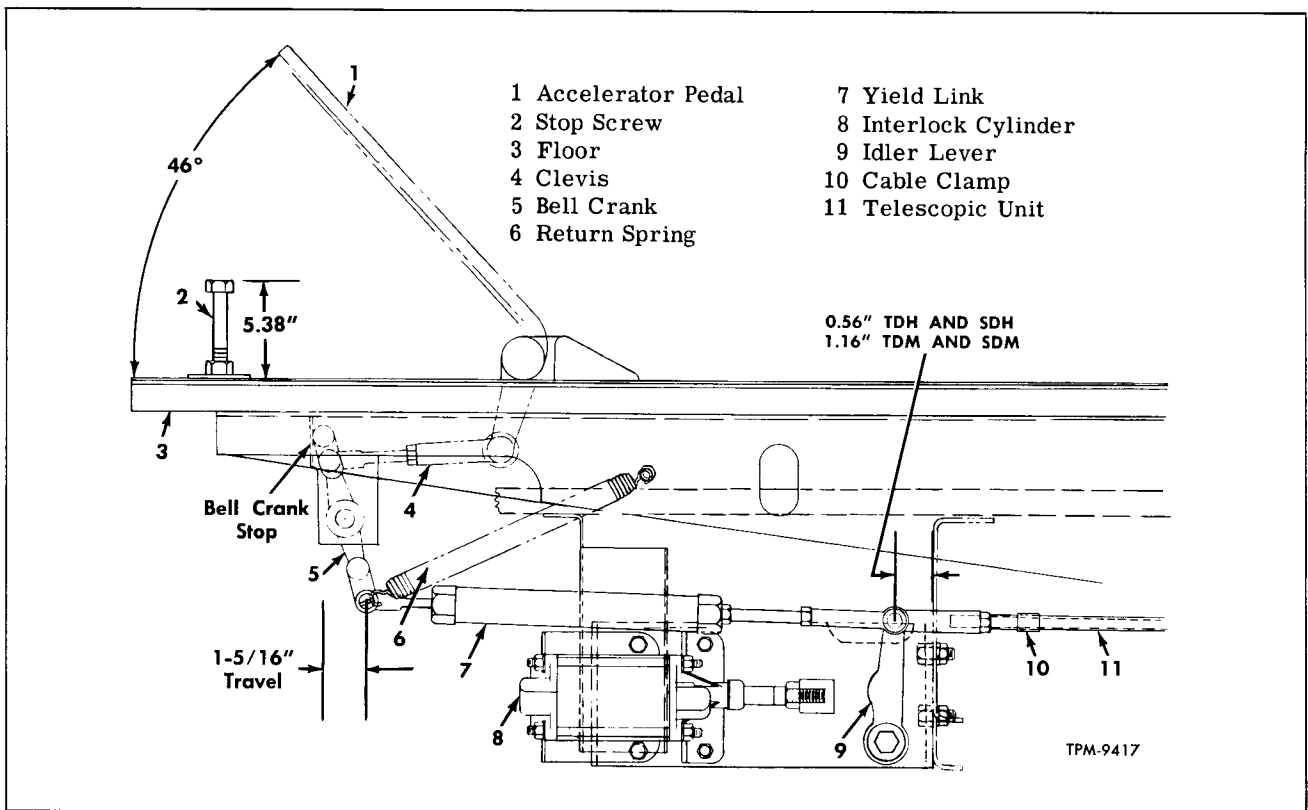
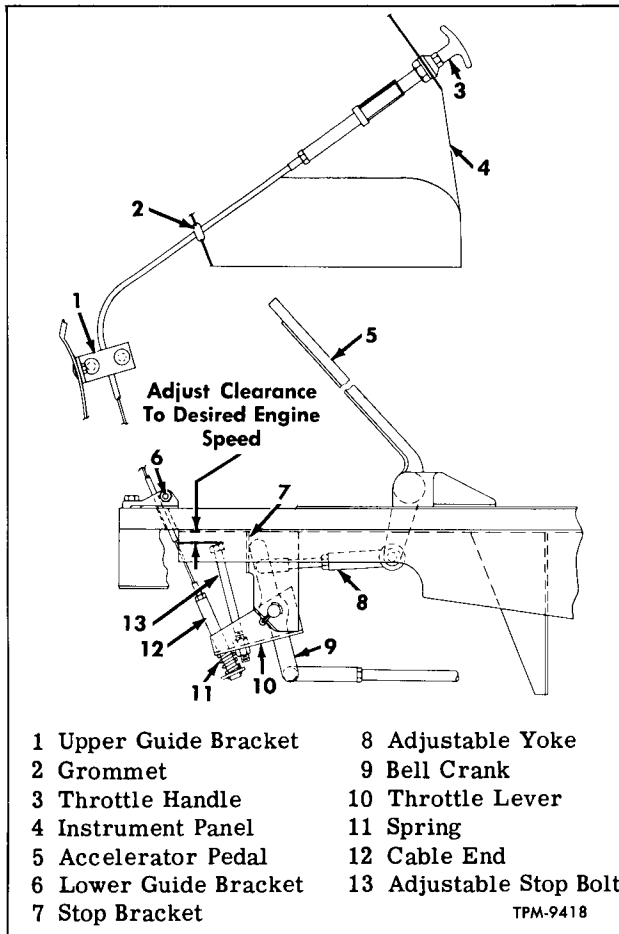
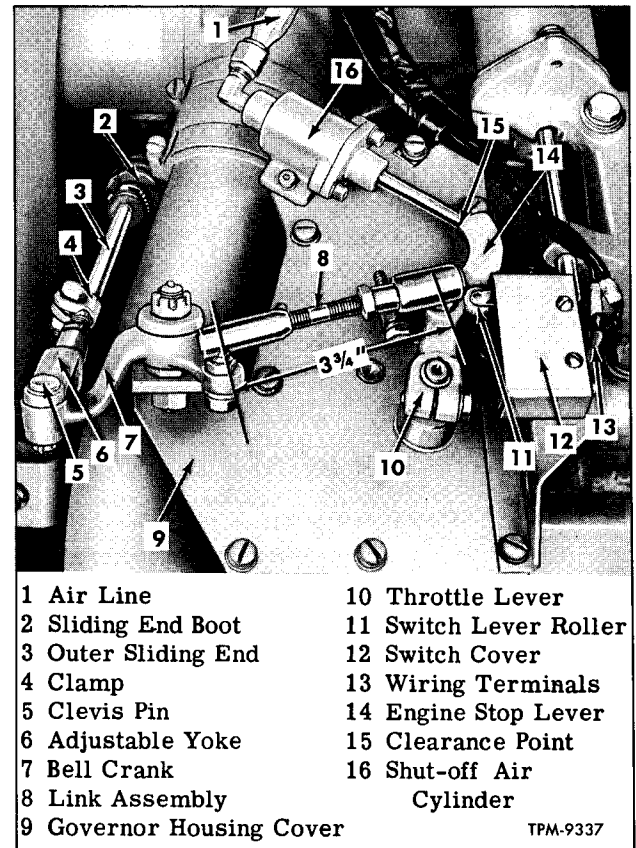
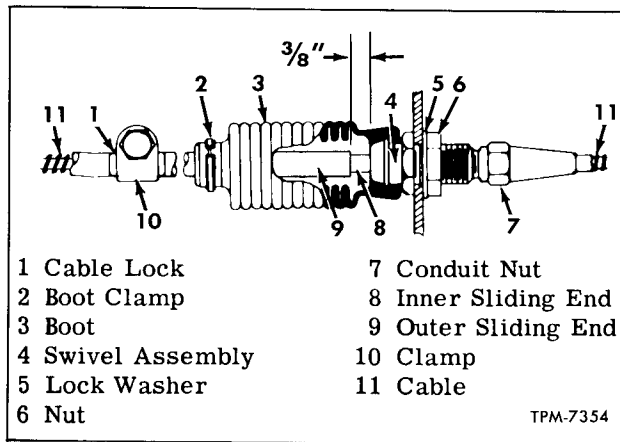

Figure 2—Accelerator Pedal and Linkage At Front of Coach
Figure 3—Hand Throttle Installation (Spec. Equip.)
Figure 4—Accelerator Linkage At Engine Governor
Figure 5—Installation At Sliding Ends
Accelerator pedal and linkage at front of coach is shown in figure 2. Pedal movement is transmitted to rear of coach through flexible cable encased in metal tubing. Linkage in engine compartment is shown in figure 4.
Adjustable stop screw at floor limits accelerator pedal travel. Boots are clamped in place at control cable telescopic ends to exclude dust and moisture. Linkage at front of coach (fig. 2) is accessible from below vehicle. Operation and maintenance of accelerator interlock air cylinder (8, fig. 2) is covered in BODY (SEC.3) of this manual.
Key numbers in text refer to figure 2, except as otherwise indicated.
1. Unhook spring (6) at front end of coach below floor.
2. Loosen cable clamp (10) and remove lock; then if necessary to remove cable, loosen clamp 4, fig. 4) and remove lock in engine compartment then pull cable out of conduit.
3. At front end, remove clevis pins and attaching parts to remove accelerator interlock (when used) yield link (7), or cable outer slider end on coaches without interlock, bell crank (5) etc.
4. Removing clevis pin (5) and flat washers (fig. 4) at bell crank on engine permits removal of clevis and adjustable yoke (6) (fig. 4) with boot as an assembly.
Key numbers in text refer to figure 2.
1. Assemble front linkage components as shown in figure 2. On coaches with hand throttle (fig. 3) the hand throttle lever must be assembled on bellcrank pin as shown in figure 5. With return spring (6) installed so upper end of bellcrank (5) is held against stop on bracket, adjust clevis (4) as necessary to position pedal (1) at 46-degree angle as shown.
2. Adjust stop screw (2) to 5.38" height as shown and check operation of pedal.
pin will be to dimension shown in figure 2, from bulkhead.
4. On coaches not using accelerator interlock, attach telescopic unit assembly to bellcrank (5).
5. Before clamping boot in place, lubricate inner and outer tubes of telescopic unit with special lubricant and adjust outer tube in clevis so there is 3/8 inch from end of outer tube to swivel (fig. 4).
1. Dip end of cable in special lubricant as specified in LUBRICATION (SEC. 13) of this manual, then feed cable into conduit from rear end applying lubricant to cable as cable is installed. Continue to feed cable into conduit until cable emerges at front end of front telescopic unit (11, fig. 2). Test cable for free movement.
2. Install lock to secure cable to front telescopic unit (11, fig. 2). Slide clamp (10, fig. 2) over lock and tighten clamp bolt. Install rubber seal on front end of cable and push seal against sliding end.
Key numbers in text refer to figure 4.
1. If link assembly (8) is removed, adjust length so ball studs will fit into lever and bellcrank (7) and lever (10) with approximately 3-3/4 inch between hole center lines as shown.
2. Lubricate inner and outer tubes of telescopic unit sliding end (3) with special lubricant, slide boot (2) on outer tube. Block accelerator pedal down against stop screw, then place outer sliding end (3) over cable and inner tube. While holding sliding end (3) 3/8 inch from swivel (fig. 5) install cable lock, slide clamp (4) over lock and tighten clamp bolt.
3. Cut off excess cable which may protrude more than 1/2 inch beyond end of threads on sliding end (3). Install rubber seal on rear end of cable and push seal tight against sliding end.
4. Release accelerator pedal. Fit boot (2) on swivel and clamp rear end to sliding end (3).
5. Install lock nut and adjustable yoke on threads at end of sliding end (4).
6. Using clevis pin and two flat washers as shown, connect sliding end yoke to bellcrank (7). Secure clevis pin with cotter pin.
Key numbers in text refer to figure 4, unless otherwise indicated.
Clevis pins and pivot points at accelerator control linkage must be lubricated periodically as instructed in LUBRICATION (SEC. 13). Cable and sliding ends are lubricated at time cable is installed and periodic lubrication is not required; however, the boots (3, fig. 5) should be inspected at regular inspection intervals. If boots or cable require replacement, lubricant as specified in LU-